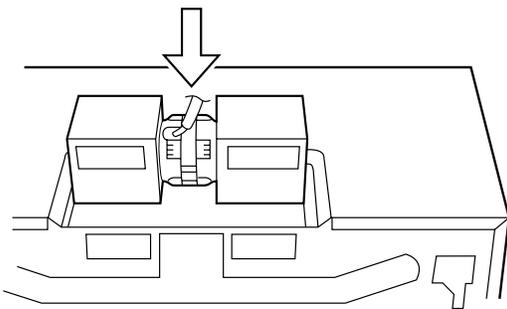

Figure 11
3. Rotate the Hood Fan Unit and turn end-over-end so that the fan blade openings are facing the back of the oven. Replace Hood Fan Unit into the oven. Be careful not to pinch the lead wire between the inner bracket and the Hood Fan Unit. See Figure 11.